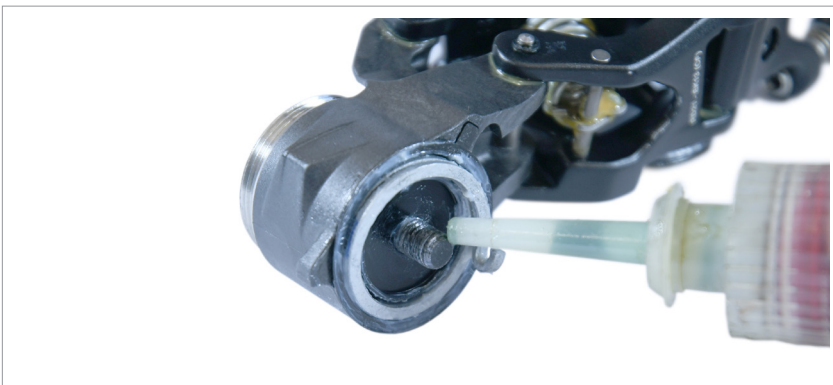

Fig.2
2) Apply “Loctite 2701” (Fig.2) to the clutch shaft.